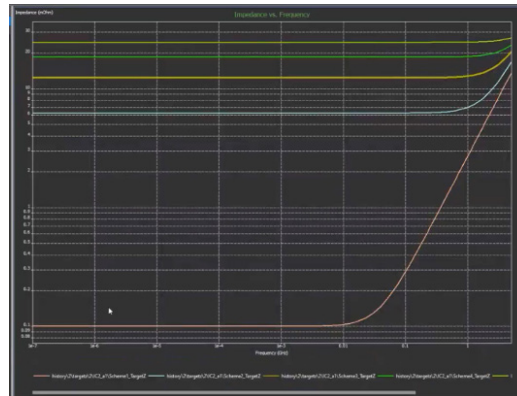

Figure 28: Results from target impedance simulation
Step 2: Once the IC model is defined, the target impedance needs to be generated. In the background various other Sigridy tools are being used to provide various target impedances that can be fed back to the board package designers. After the simulation is completed on the target impedance, Figure 28 shows the results. This reflects the multiple solutions that will meet the given power ripple spec, along with the PWL of the IC.